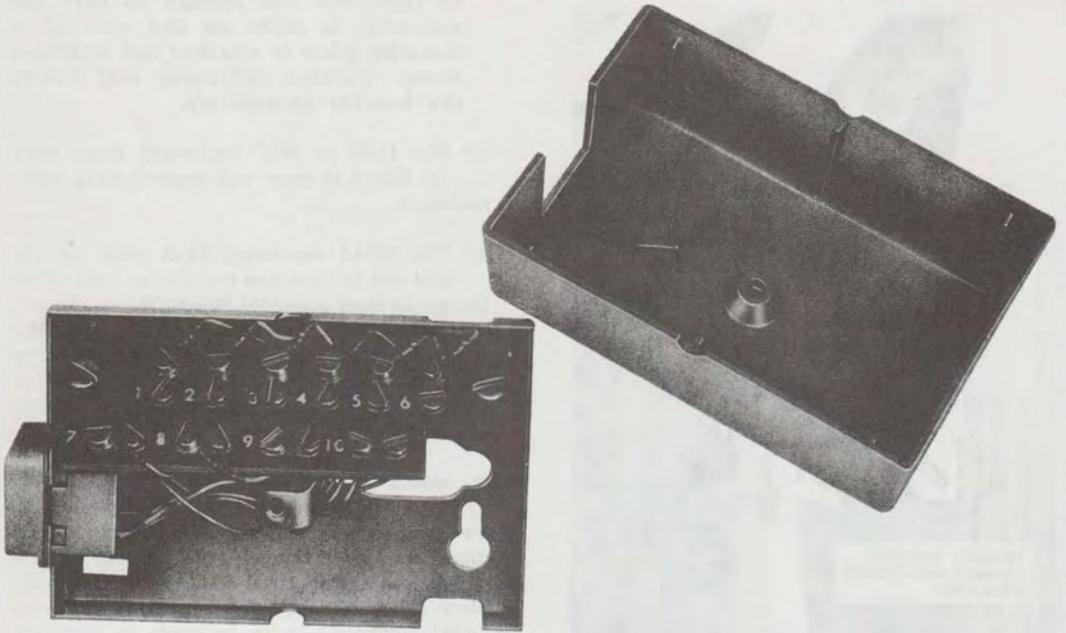
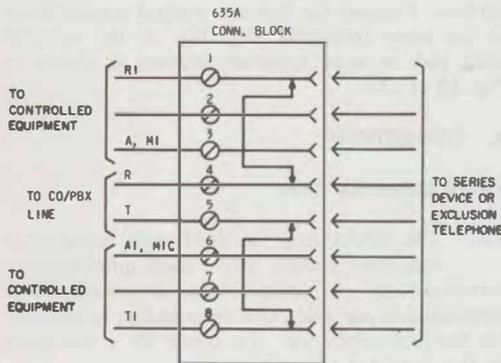

Fig. 10—635A (MD) Connecting Block
Fig. 11—Schematic Diagram, 635A (MD) Connecting Block
2.13 The **635A (MD)** connecting block contains a 650-type, 8-contact modular jack which is wired to eight screw terminals (Fig. 10). The 8-position plug on the series equipment is plugged into the modular jack, and the line and controlled station connections are made at the screw terminals. When a plug is not inserted, lead 1 is shorted to lead 4, and lead 5 to lead 8. Insertion of the plug removes the shorts and puts leads 1 and 4 and 5 and 8 in series with the series or exclusion equipment (Fig. 11). In this mode, continuity to the downstream equipment must be maintained through the series or exclusion equipment.
**3.12 635A (MD) Connecting Block:** Remove the cover from the block by loosening the screw in the center. Mount the block on a suitable vertical surface. Connect the line and control station leads (Fig. 11) to the screw terminals. Replace the cover. Connection of the series or excluded equipment is to be made by inserting the plug into the series jack.